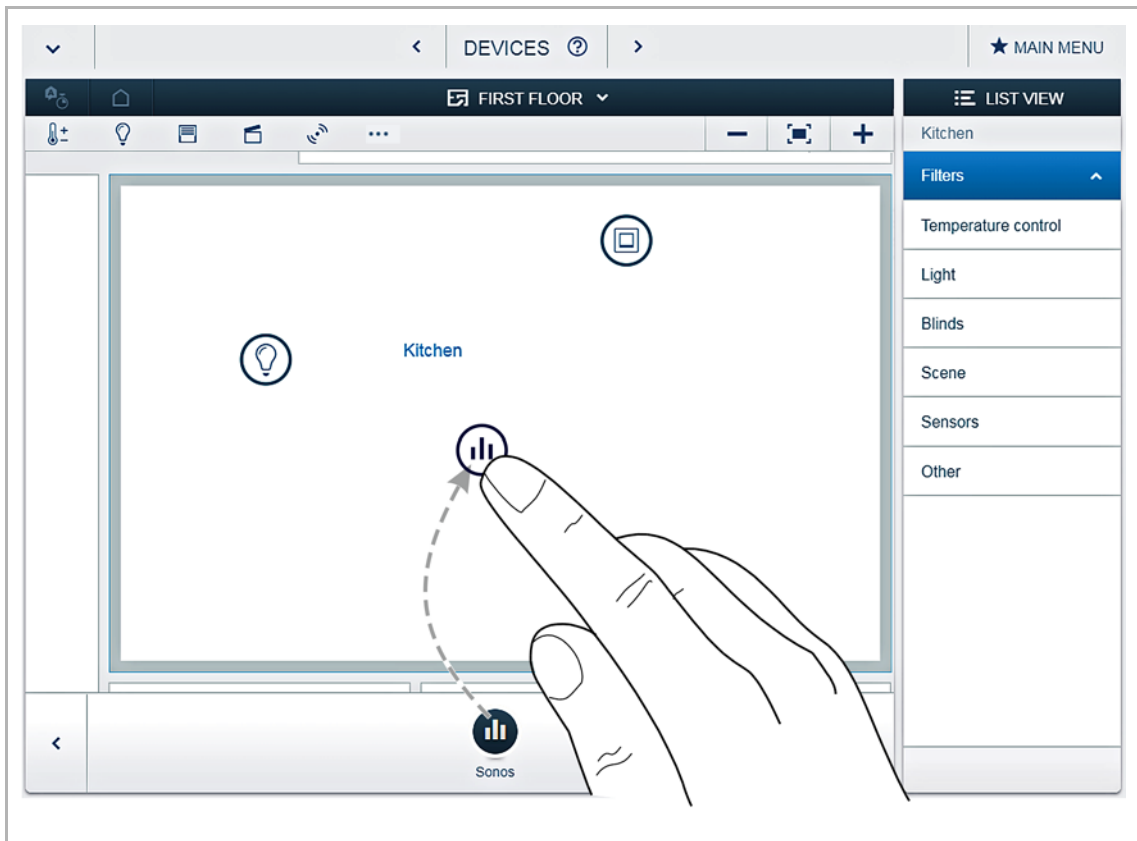

Fig. 103: Allocating Sonos speakers to rooms
2. For allocating the Sonos speakers (Media Player) to rooms in the "Devices" menu, see Fig. 103.